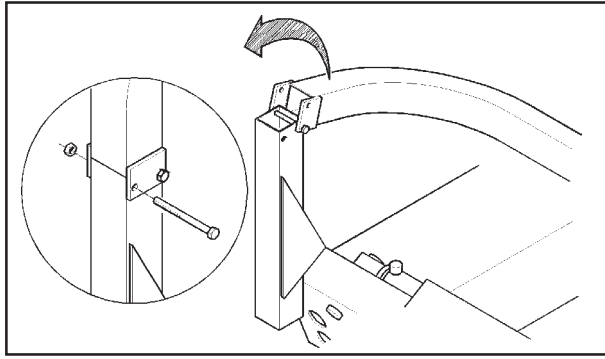

Fig.11
A. Move the control arm to a vertical position. Install the lock bolt and tighten the nut properly. Make sure that the electric cable and hydraulic hoses are not caught nor damaged. (Fig.11).
B. Install the accessories peg and lock with screw(Fig.11).